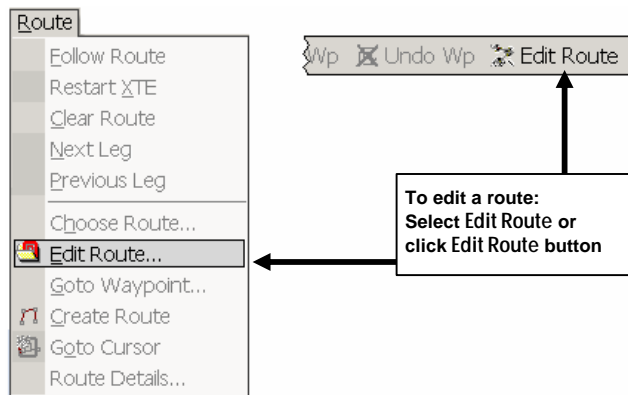
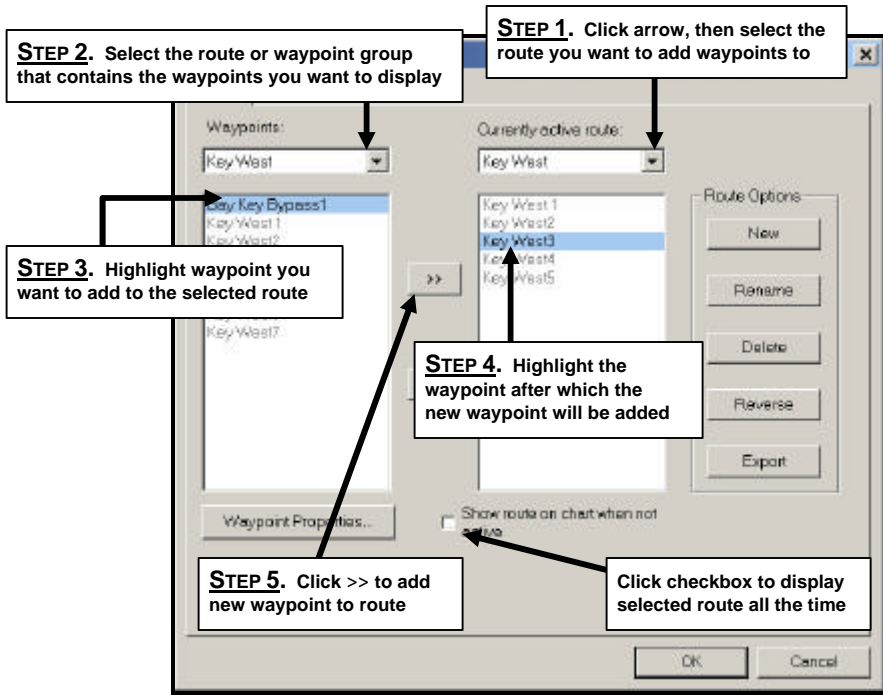

Figure 4-10. Two Ways of Displaying the Edit Route Dialog Box
Figure 4-11. Edit Route Dialog Box: Adding a Waypoint to a Route
1. As shown in Figure 4-10, select **Edit Route** from Route menu or click the **Edit Route** on the toolbar. The Edit Route dialog box is displayed (Figure 4-11).
If the route you want to add waypoints to is not the currently active route, you'll need to select it as shown in Figure 4-11. The waypoints associated with the currently selected route are displayed in the window directly beneath **Currently active route**.
2. As shown in Figure 4-11, click the arrow beneath **Waypoints** to display the waypoint group drop-down menu. Select the waypoint group that contains the waypoint(s) you want to add to the selected route.